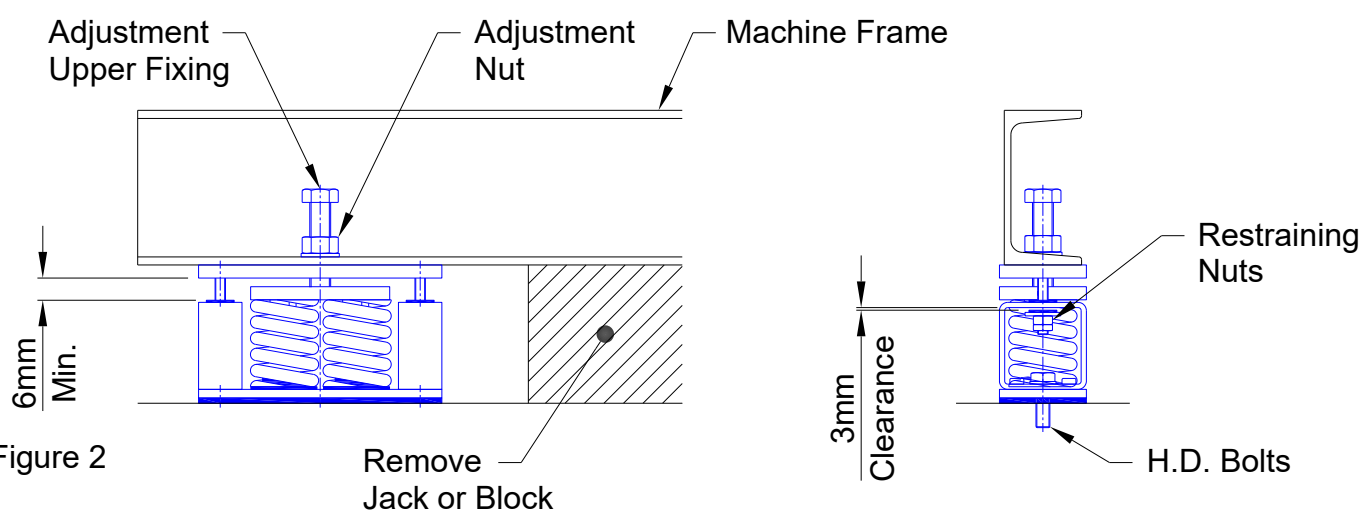

Figure 2
7. Isolator restraining nuts can now be adjusted to provide a minimum of 3 mm clearance, as shown on Figure 2.